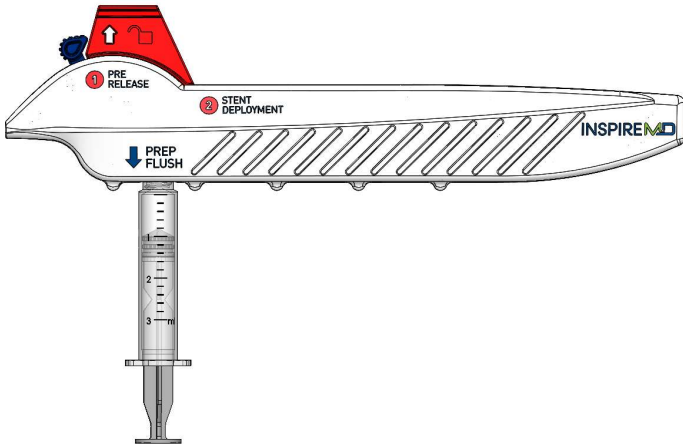

Figure 4 Example of 3cc luer lock syringe connected to the CGuard® Prime for flushing
- For device flushing, connect a 3cc or 5 cc luer lock syringe to the “PREP FLUSH” port (see Figure 4) filled with heparinized saline solution (DO NOT USE CONTRAST), maintain positive pressure until saline fluid drops are observed exiting the CGuard® Prime EPS at the distal end. This process may take up to 30 seconds. Ensure saline is observed at the distal end as well as at the RX guide wire port.